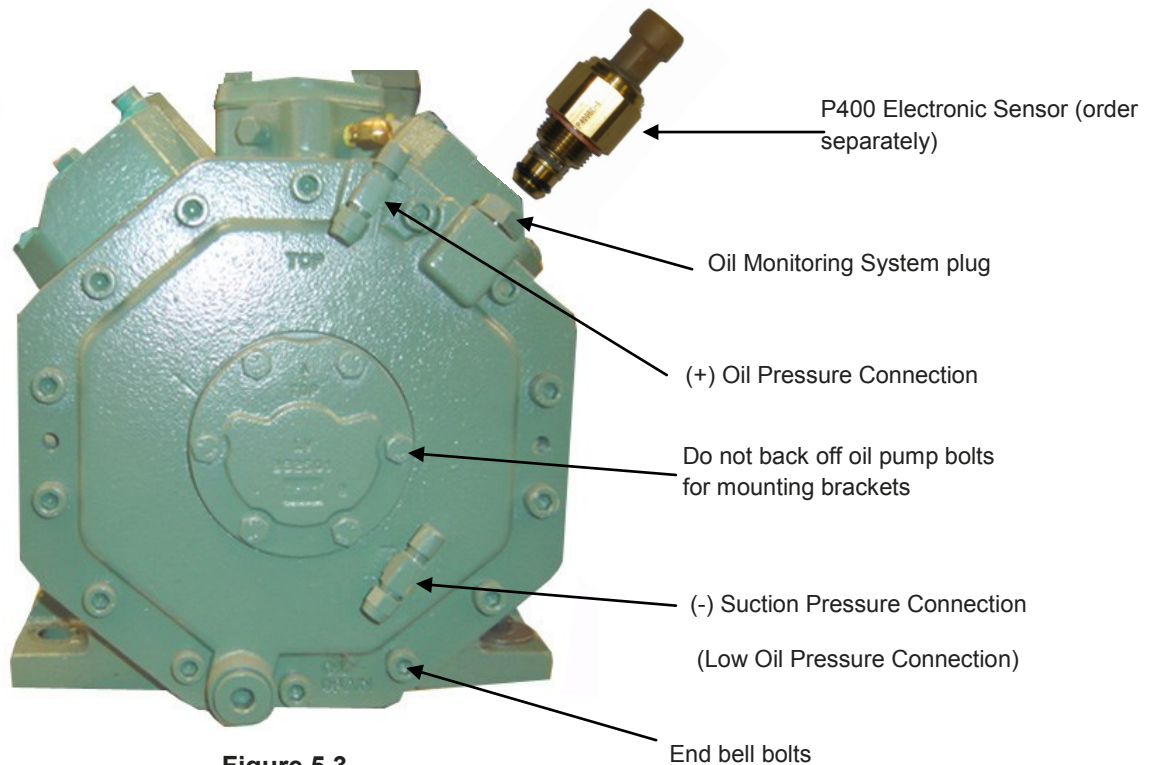

Figure 5.3
2. When using the Johnson electronic control P545-NCB25 the electronic sensor is connected as shown in Figure 5.3.
3. Mechanical oil safety control connects to the (+) and (-) fittings shown in Figure 5.3.